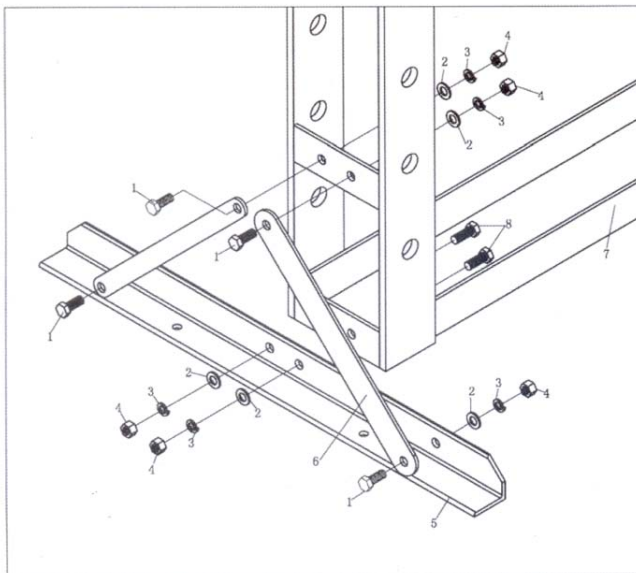

Figure 1
- The bed frame (23) is put at the bottom for convenient for packaging and transport, then fixed on the post (10) by two bolts M12.
- **Attach the foot section (05) and support (06) to left and right connecting plate using bolt (01), washer (02), lock washer (03) and nut (04).** (figure 1)